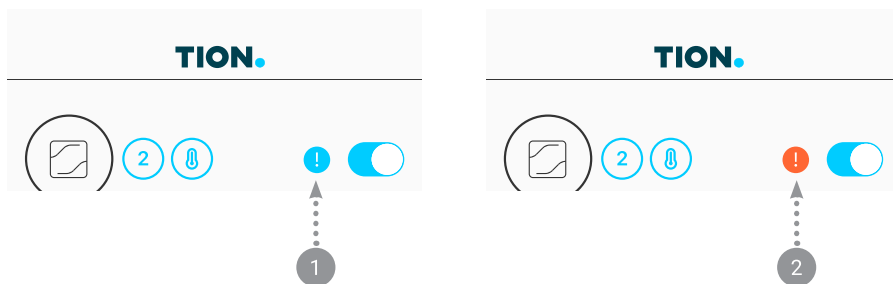

Figure 7.3. "Warning" (1) and "Error" (2) modes indicated in the Tion Remote application
If a smartphone is connected to the device via Tion Remote application, the application will display an icon with a warning (Figure 7.3, item 1) or error code (Figure 7.3, item 2). Possible warnings and errors are listed in Table 7.2.